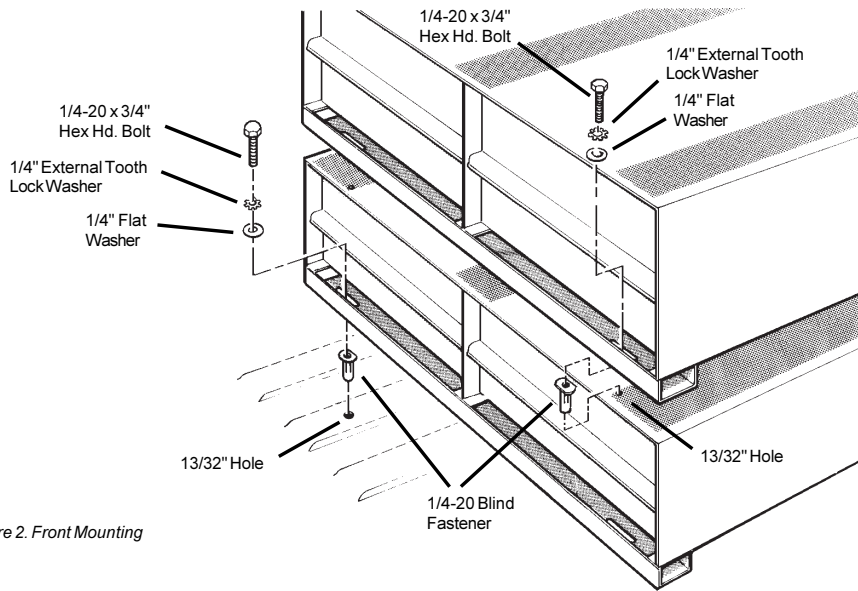

Figure 2. Front Mounting
1. Position the lower Drawer Unit in the vehicle, making sure the obround holes in the front skids are on top of the floor ribs (as shown in Figure 2.). Mark the floor through the obround holes.
6. Place the upper Drawer Unit on top of the previously installed lower unit. Align with the front of the lower unit (see Figure 2.). Mark through the front skid obround holes to the lower unit.